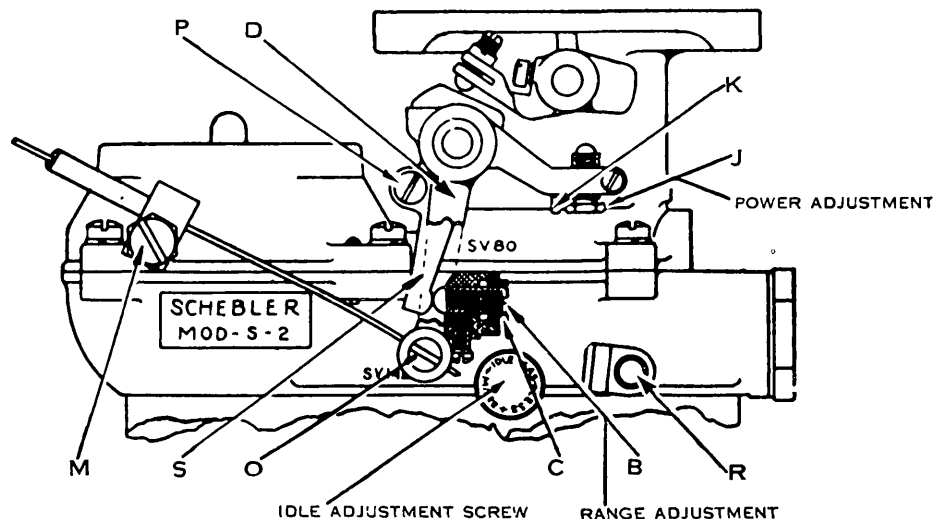

Fig 8
**Installation.**—The dash control tubing should be fastened securely under the clamp and screw assembly (M, Fig. 8) and the dash control wire should be fastened in the binding post (O) so that there is about  $\frac{1}{32}$ " play between the lug on the loose lever (D) and the screw (P) when the throttle is closed and when slotted end of range screw (B) is flush with knurl bushing (C). After tightening screw in binding post (O), straighten out the control wire so that the loose lever (D) does not bind the dash control lever (S) and cause it to stick open. Operate the dash control several times to check this point.
**Idle Adjustment.**—Turn the idle adjusting knurl (Fig. 8) to the right for a lean mixture, and to the left for a rich mixture. To check the idle adjust-